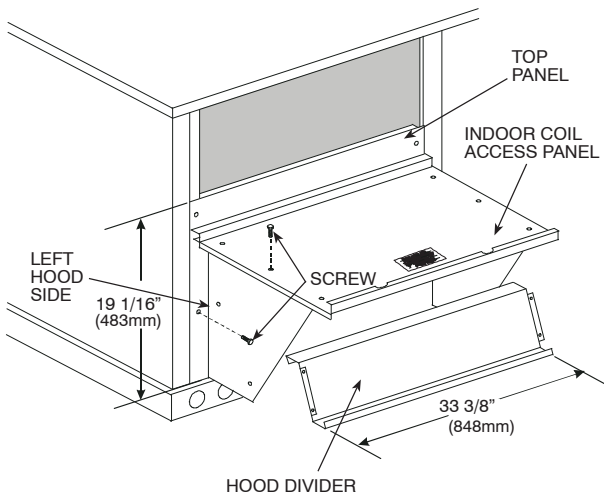

Fig. 10 - Economizer Hood Construction
- Swing out indoor coil access panel and insert the hood sides under the panel (hood top). Use the screws provided to attach the hood sides to the hood top. Use screws provided to attach the hood sides to the unit. See Fig. 10.
- Insert the hood divider between the hood sides. See Fig. 10 and 11. Secure hood divider with 2 screws on